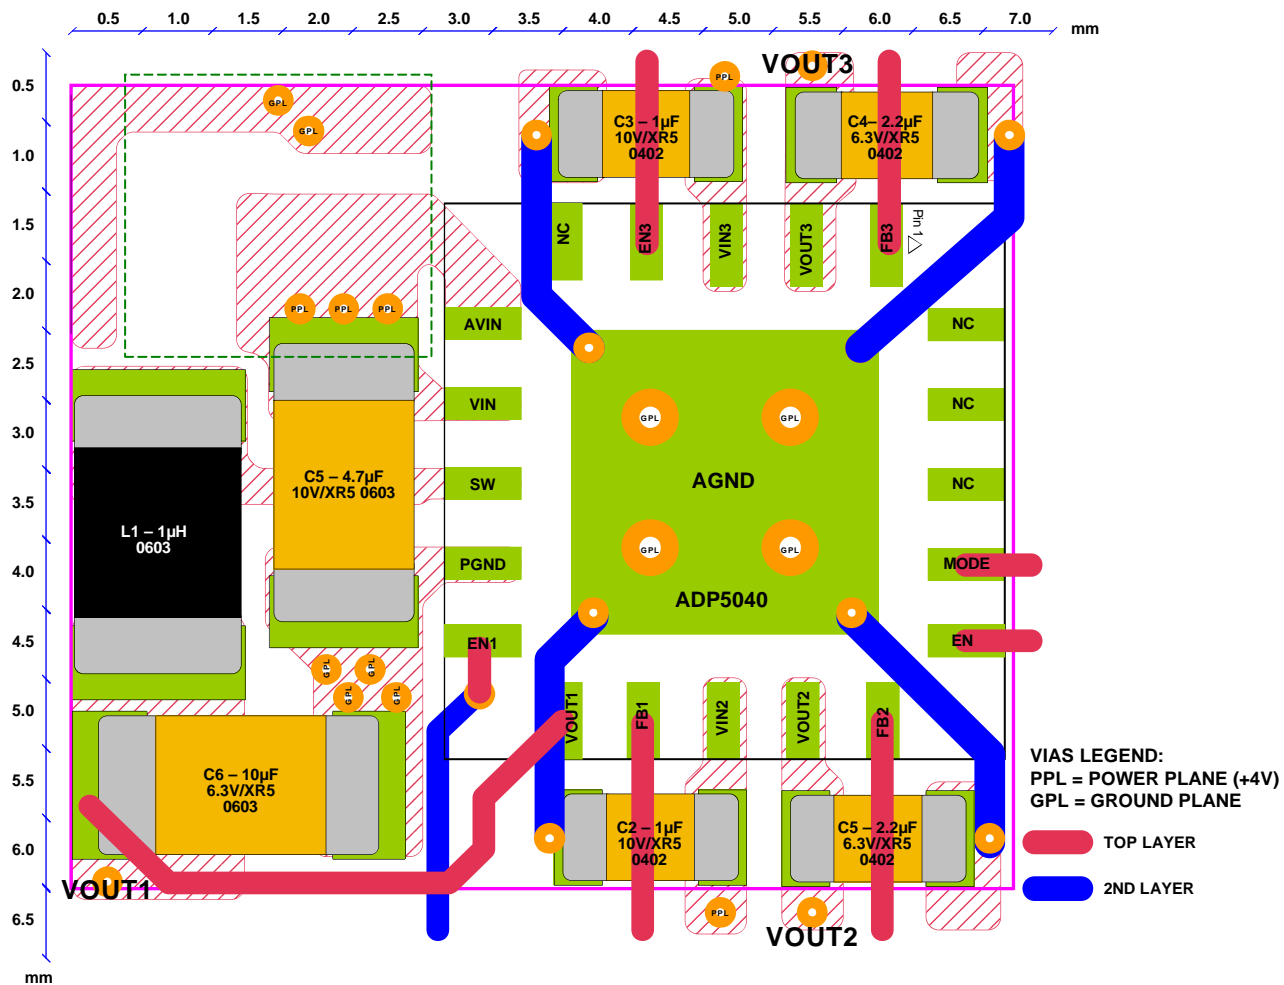

Figure 109. Evaluation Board Layout
The typical θ_{JA} value for the 20-lead, 4 mm × 4 mm LFCSP is 38°C/W (see Table 6). A very important factor to consider is that θ_{JA} is based on a 4-layer, 4 inch × 3 inch, 2.5 oz copper, as per JEDEC standard, and real applications may use different sizes and layers. To remove heat from the device, it is important to maximize the use of copper. Copper exposed to air dissipates heat better than copper used in the inner layers. The exposed pad (EP) should be connected to the ground plane with several vias as shown in Figure 109.
See Figure 109 for an example layout.